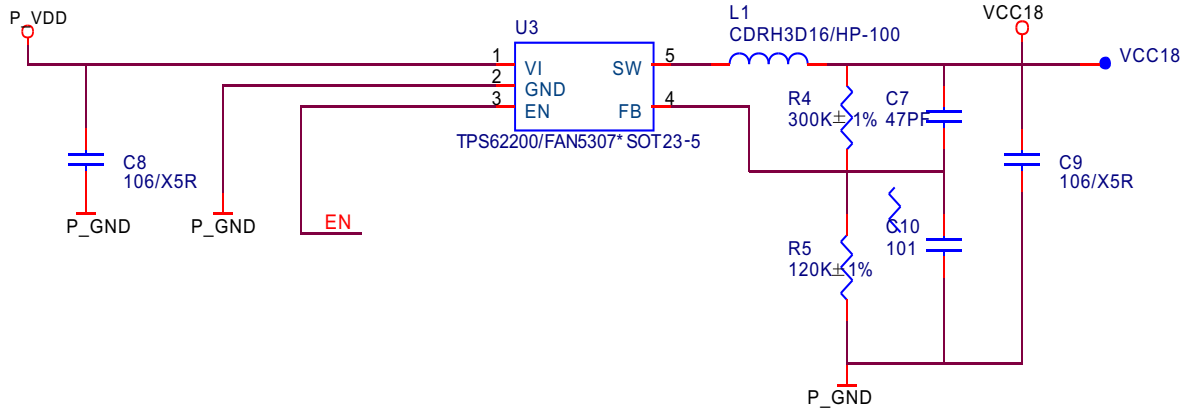

Figure 3.2.9.3 1.8V power circuit schematic diagram
2. Working principle: seen from the figure 3.2.9.1, 3.3V power is supplied by IC TPS79301 and peripheral circuit. TPS79301 is a linear voltage stabilizing module (LDO also called), EN pin is the enable pin that controls normal working, high level is effective; BYPASS has a resistor inside that can compose low pass filter together with external 103 capacitor C4 to decrease output noise; the setup of TPS79301 output voltage is decided by the resistance value of the two externally-connected resistors of FB pin and the relationship is shown as follows: